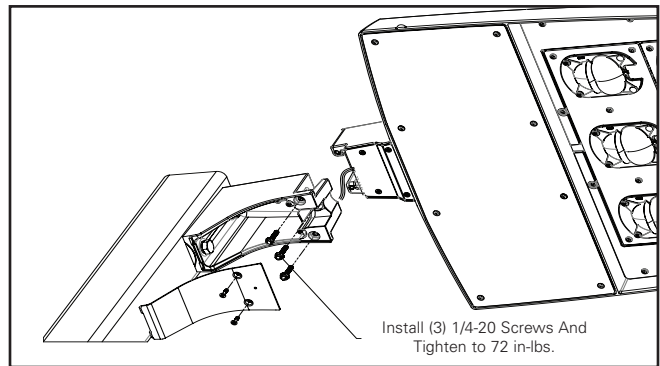

Figure 3.
3. Fold fixture wire leads tightly towards fixture door when sliding fixture on to mounting arm. Install the (3) 1/4-20 x 1" screws and tighten to 6 ft-lbs. Tighten the center screw first as shown in (Figure 3).
- Note:** Ensure the luminaire supply leads do not get pinched between cover and mounting arm as shown in (Figure 3 & 5).
6. Install the (3) 1/4-20 x 1.25" screws and tighten to 8 (Ft-lbs). Tighten the center screw first as shown in (Figure 3.) and install the plastic plug over the center screw. (Figure 3.)
7. Tuck wires into the fixture and install fixture door. Tighten the (8) fixture door screws to 20 in-lbs. (or tighten door thumb screws).